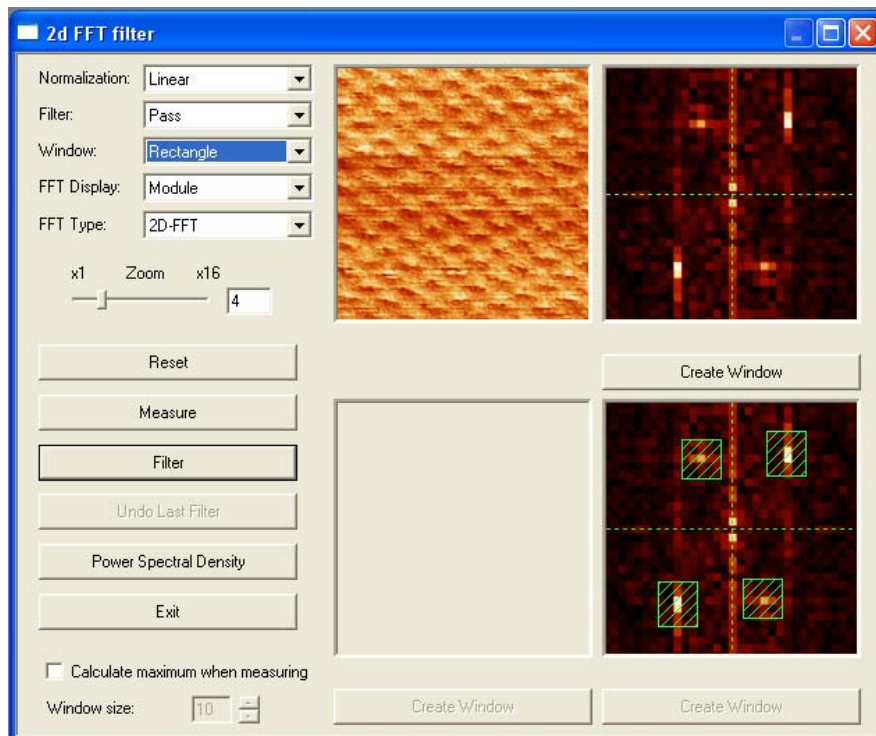

Fig. 2 *2d FFT Filter* dialog box.
2. Open the *2d FFT Filter* dialog box (see Fig. 2 below).